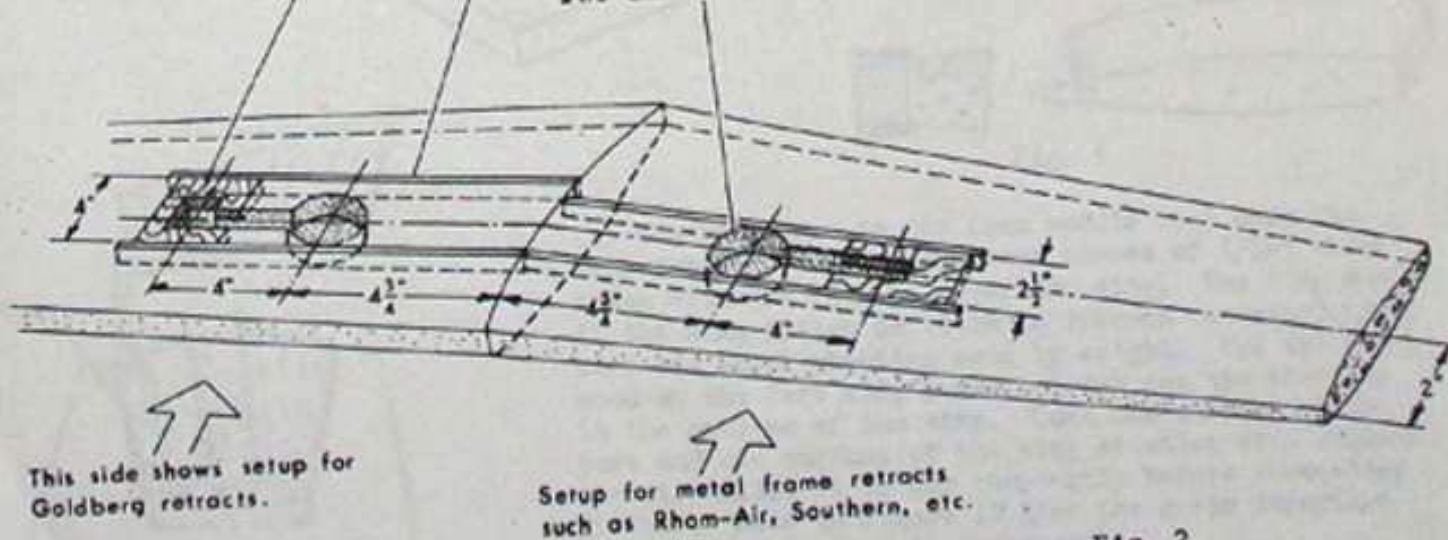

Fig. 2
1. Lightly sand the wing cores and vacuum thoroughly. If retractable landing gear is to be installed, cut recesses in bottom of wing cores using the hot wire technique. Figure 1 illustrates how the cutting wire is bent and installed in a Weller-type soldering gun. Thin plywood templates should be used as a guide when cutting. Figure 2 gives dimensions for laying out the wheel wells and plywood gear mount as well as the spars. Use the set of dimensions that apply to the type gear you are using. **DO NOT JOIN THE WING CORES AT THIS TIME!**